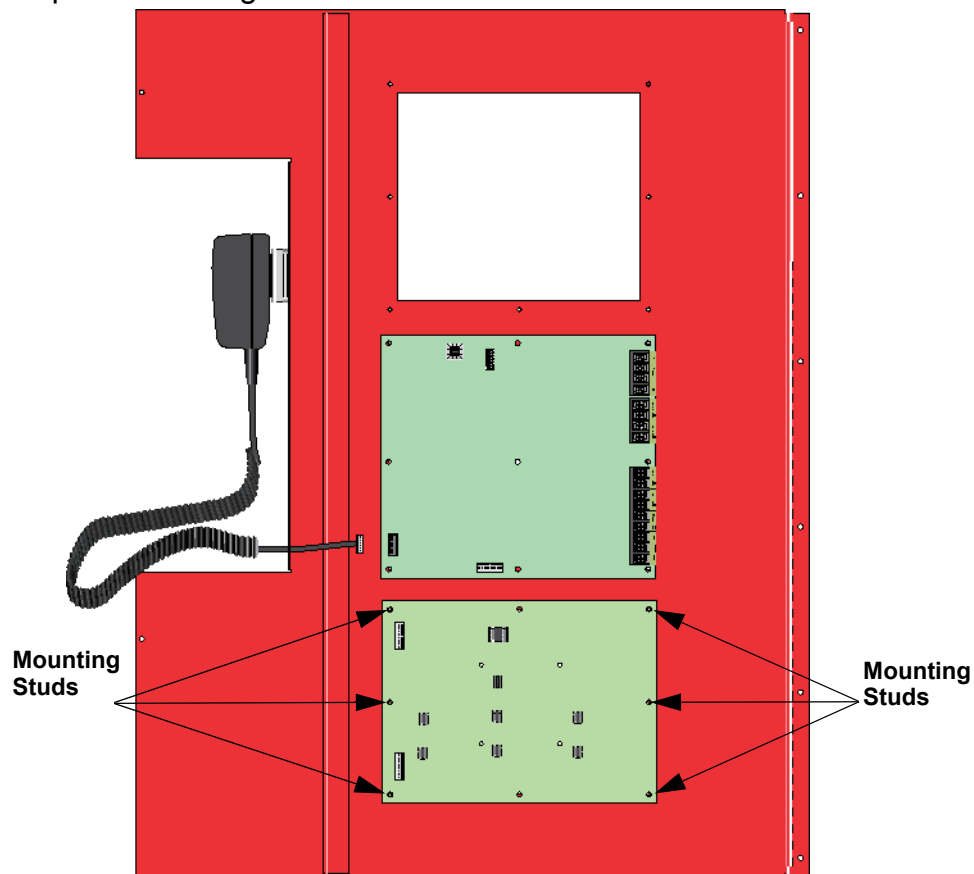

Figure 4-12 Mounting Location for the EVS-SW24
4. Install the EVS-SW24 on the six mounting studs located on the inside of the dead front panel. See Figure 4-12.